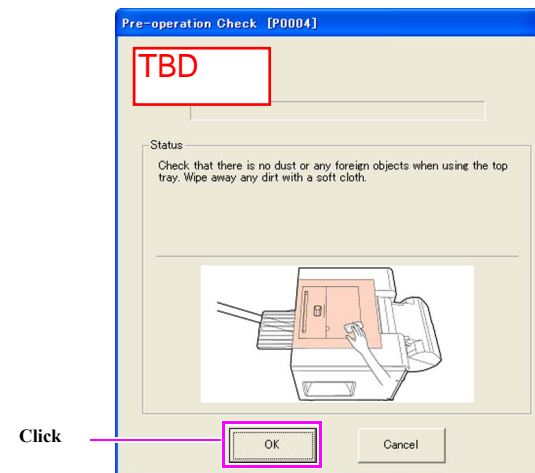

Figure 3-55. Manual Check Screen
4. The Manual Check screen appears. (See Figure 3-55)